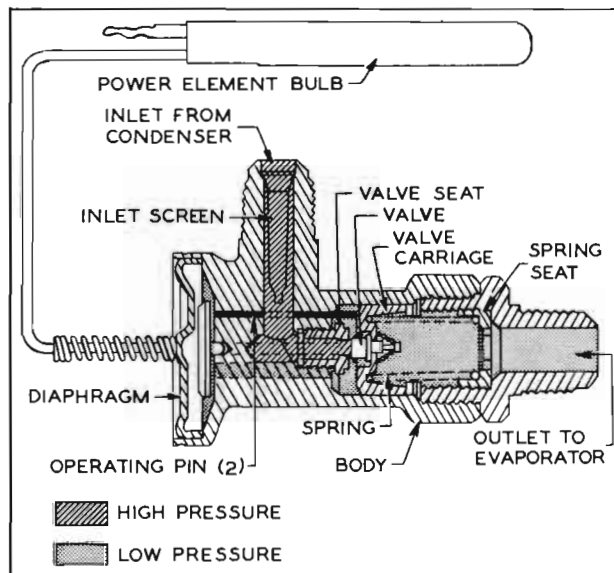

Figure 11-45—Non-adjustable Expansion Valve
When the coil is energized a magnetic field is created which attracts the rear clutch plate and pulls it into contact with the clutch cover ring. The frictional forces overcome the three torsion springs (See Figure 11-45) and cause enough relative rotation between the clutch plates to make the nylon balls roll up their ramps, spreading the clutch plates apart and forcing them into firm contact with their mating surfaces. This provides a solid connection between the pulley and the compressor main shaft.
4. *Thermostatic Expansion Valve.* The expansion valve is located at the bottom of the evaporator core on the outside of the case. The liquid enters the valve at the $\frac{3}{8}$ " "O" ring fitting, passes through the flat seat orifice, and leaves the valve at the $\frac{1}{2}$ " "O" ring connection and enters the evaporator. See Figure 11-45.